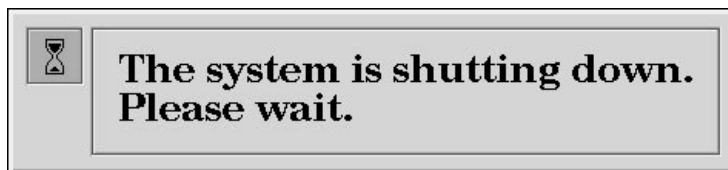

Figure 7-2 System Shutdown Notifier
2. Click *OK*. The screen clears and you see the notifier shown in Figure 7-2.